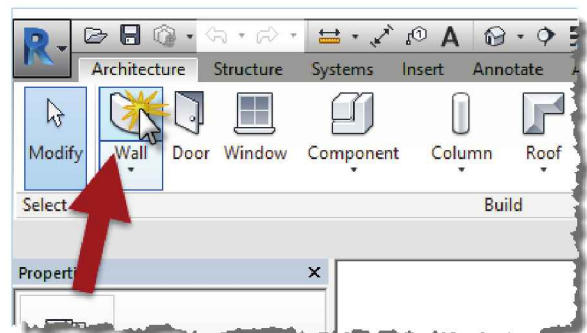

FIGURE 2-1.2 Wall tool
2. Select **Architecture** → **Build** → **Wall** on the *Ribbon*. (See Figure 2-1.2.)